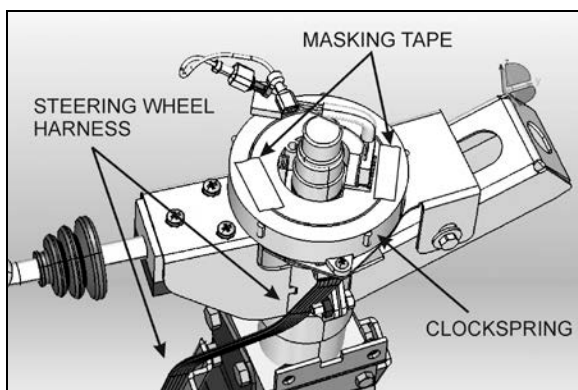

FIGURE 13: LOCKING THE CLOCKSPRING IN PLACE
7. Once the steering wheel is removed, it is important to block any rotating movement of the clockspring in order to prevent it from losing its neutral position. Use two pieces of masking tape to lock it in place (Fig. 13).